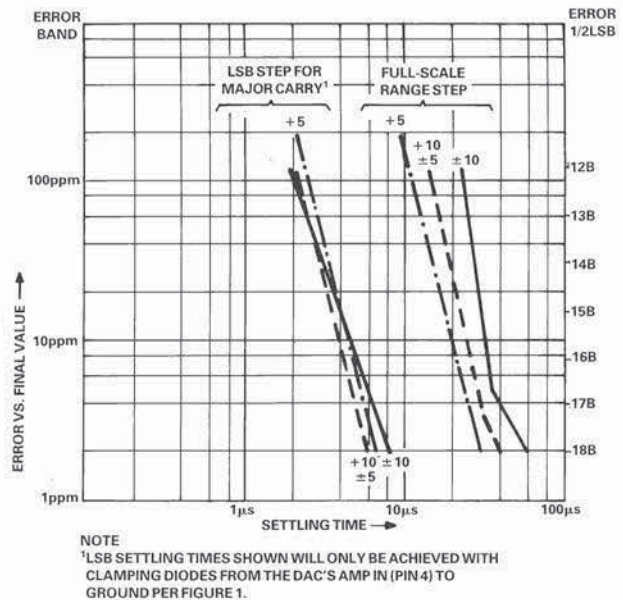

Figure 9. Settling Time vs. Resolution
- 5Figure 9 provides typical LSB and full-scale settling time to within 1/2LSB at 12- to 18-bit resolutions.
Figure 9 graphically presents the typical settling times to within  $\pm 1/2\text{LSB}$  at resolutions from 12 to 18 bits.